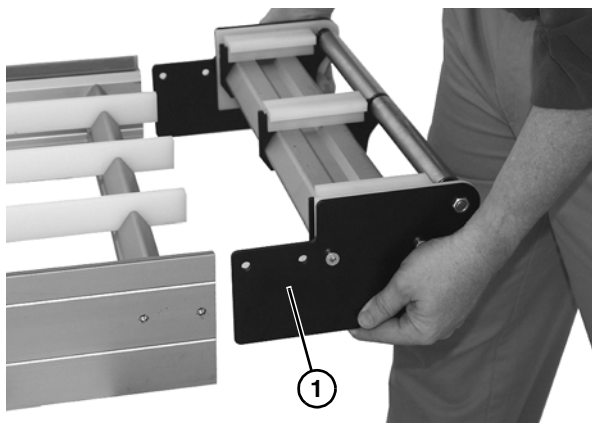

Figure 64
3. Remove idler tail assembly (**Figure 64, item 1**).